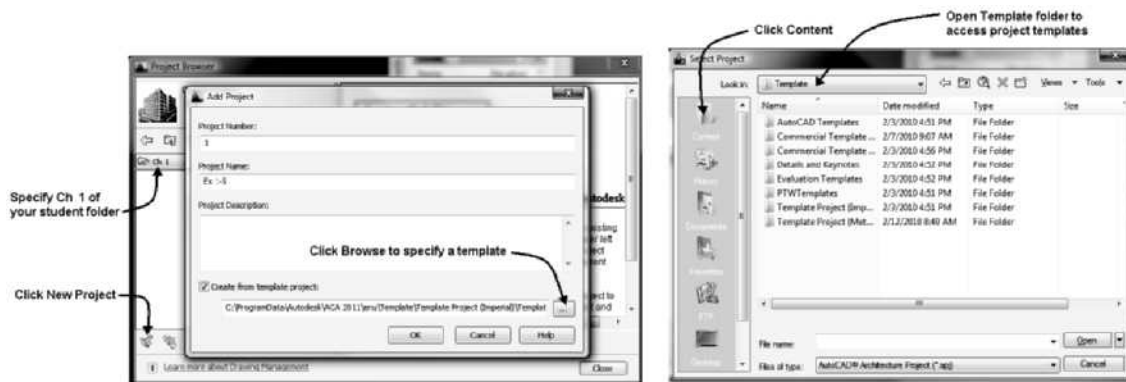

FIGURE 1.84 Creating a project in the Project Browser
3. Select the **New Project** button of the Project Browser shown in Figure 1.84 to open the **Add Project** dialog box.
4. Type **1** in the **Number** edit field and **Ex 1-5** in the **Project Name** edit field. Verify that **Create from template project** is checked. Click on the **Browse** button to open the **Select Project** dialog box. Click on the **Content** button of the Places panel as shown in Figure 1.84. Navigate to *Template\Template Project (Imperial)\Template Project (Imperial).apj* or *Template\Template Project (Metric)\Template Project (Metric).apj*. Select **Open** to choose the template file and dismiss the **Select Project** dialog box.